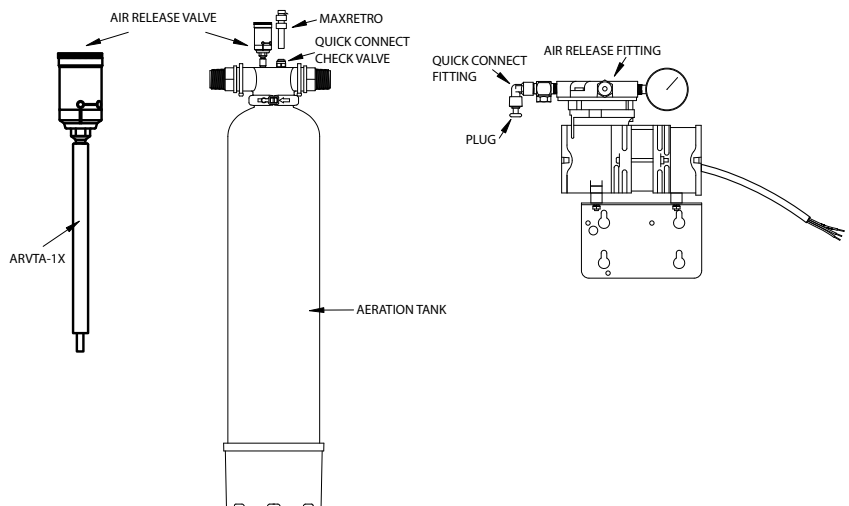

Figure 4
3. Locate and install the MAXRETRO kit into the quick connect check valve on the air release tank prior to adjusting the air release valve mounted on the air compressor, see Figure 4. If you're replacing the compressor on an older style system with threaded nut fittings, cut the 1/4" polyethylene tubing about 2 inches above the nut. Care needs to be taken to ensure the tubing is cut square and clean. Remove the 1/4" polyethylene from the MAXRETRO kit and slide the union connector onto the 1/4" polyethylene tubing left in the threaded nut, see Figure 4. **NOTE: Relieve any pressure from the aeration tank before cutting the tubing.**
4. Connect the GAST LOA-P109-AA Compressor to either the pressure switch or flow switch; please note the compressor is rated for 110 VAC, minimum 15 amps, 60 cycles. Be sure the plug is installed in the Compressor Assembly as shown in Figure 4 during this step. Start the GAST LOA-P109-AA Compressor. by running water down stream of the pressure tank or flow switch. Open the brass air release mechanism on the side of the compressor. Control the setting by turning the adjustment nut in or out to set the operating pressure of the GAST LOA-P109-AA Compressor. The correct adjustment would be when the pressure gauge maintains a pressure of 10 to 15 pounds less than the shut off pressure of the water system. Once the adjustment is correct, lock the setting by tightening the second nut on the air release mechanism to secure the setting.